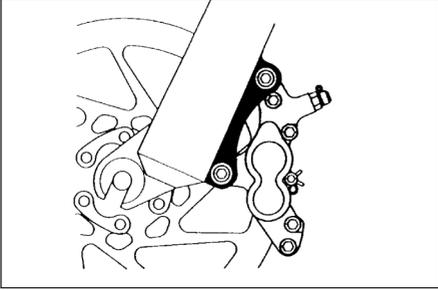
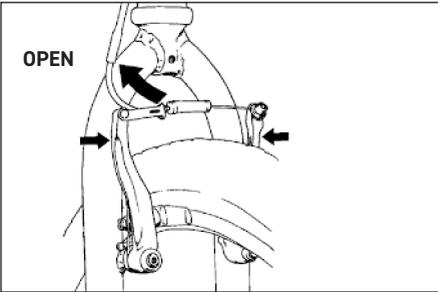

Figure 11.
Figure 12.
- (1) If your bike has rim brakes, disengage the brake's quick-release mechanism to increase the clearance between the tire and the brake pads (See Section 4.C fig. 11 through 15).
- (2) If your bike has rim brakes, disengage the brake's quick-release mechanism to increase the clearance between the wheel rim and the brake pads (see Section 4.C, figs. 11 through 15).
- (3) On a derailleur gear system, pull the derailleur body back with your right hand.
3. Some bicycle brakes, such as disc brakes (fig. 11) and linear-pull brakes (fig.12), Are extremely powerful. Take extra care in becoming familiar with these brakes and exercise particular care when using them.
Most rim brakes have some form of quick-release mechanism to allow the brake pads to clear the tire when a wheel is removed or reinstalled. When the brake quick release is in the open position, the brakes are inoperative. Ask your dealer to make sure that you understand the way the brake quick release works on your bike (see figs. 12, 13, 14 & 15) and check each time to make sure both brakes work correctly before you get on the bike.